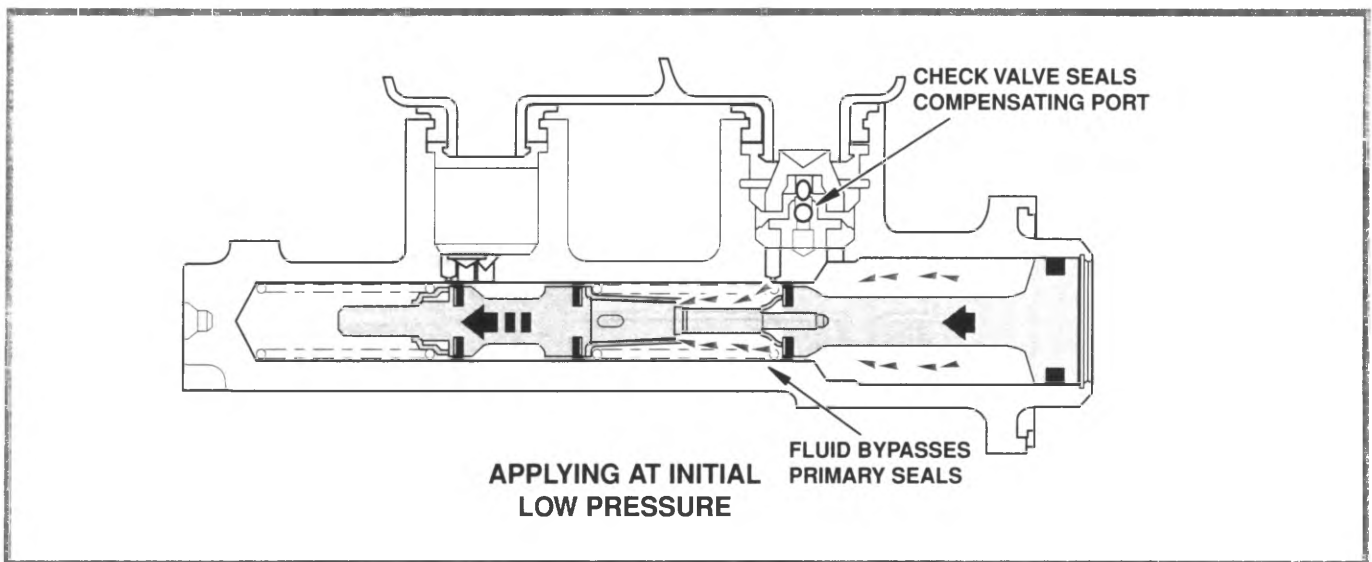

Figure 4-5, Applying at Initial Low Pressure
- The quick take-up valve seals the compensating port passage between the low pressure chamber and the brake reservoir (figure 4-5)